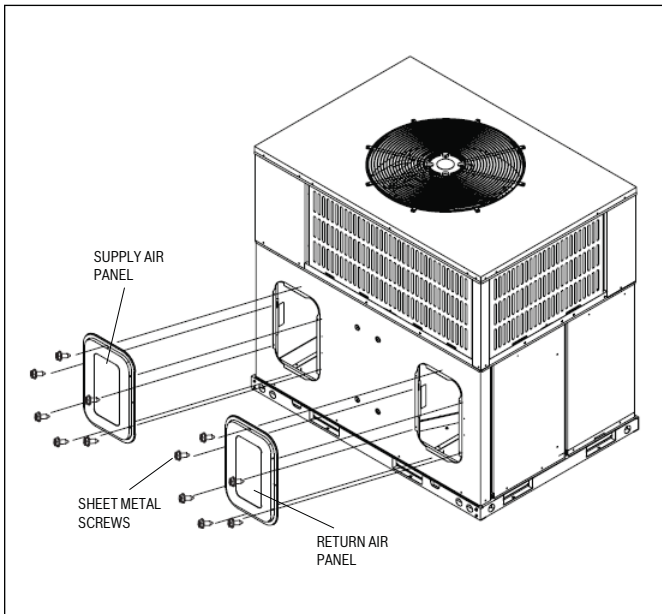

Figure 4 IDP 3 Ton
5. Place the panels over the horizontal supply and return openings (painted side out) located at the back of the unit. Align the screw holes, and secure using the same screws removed in step 2. See Figure 4 and 5.